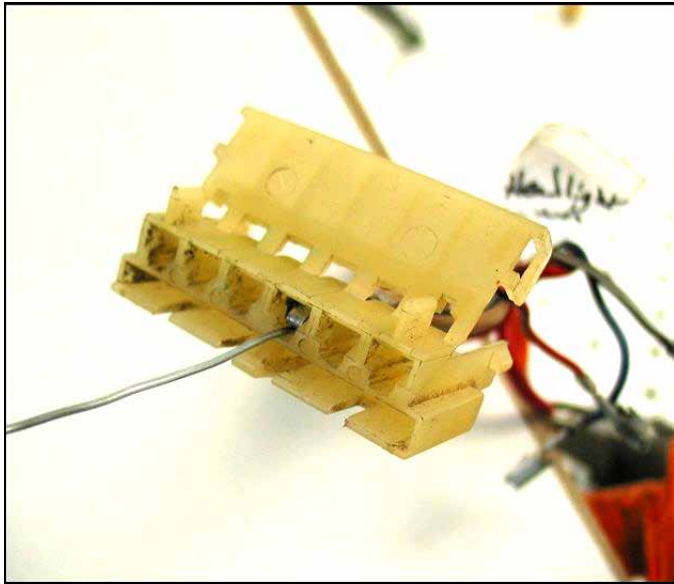
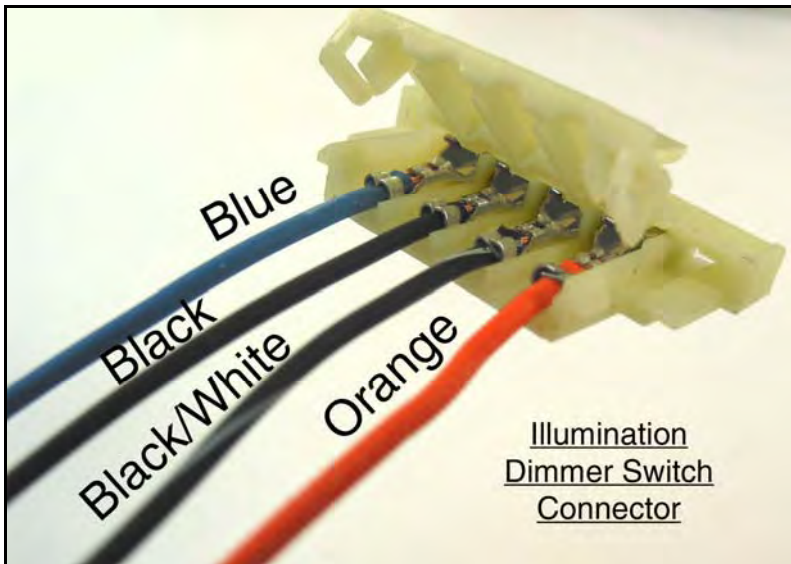

Figure 7.1.2 Headlight Switch Terminal Removal
Figure 7.1.6 Ill. Dimmer Switch Pin Out
- 7.1.2 Remove the factory terminals by using a terminal pick or stiff wire, such as a paperclip. Insert the wire or pick as shown in **Figure 7.1.2**. Doing so will depress the locking tang and the factory terminal and wire can be removed from the connector. Make sure the terminal position lock is undone or the terminal will not come out.
- 7.1.6 The PANEL DIMMER SWITCH wires come pre-terminated. The factory connector will need to be reused. The terminals remove just as the HEADLIGHT SWITCH terminals did. Use **Figure 7.1.2** and **Figure 7.1.6** to re-pin this connector.